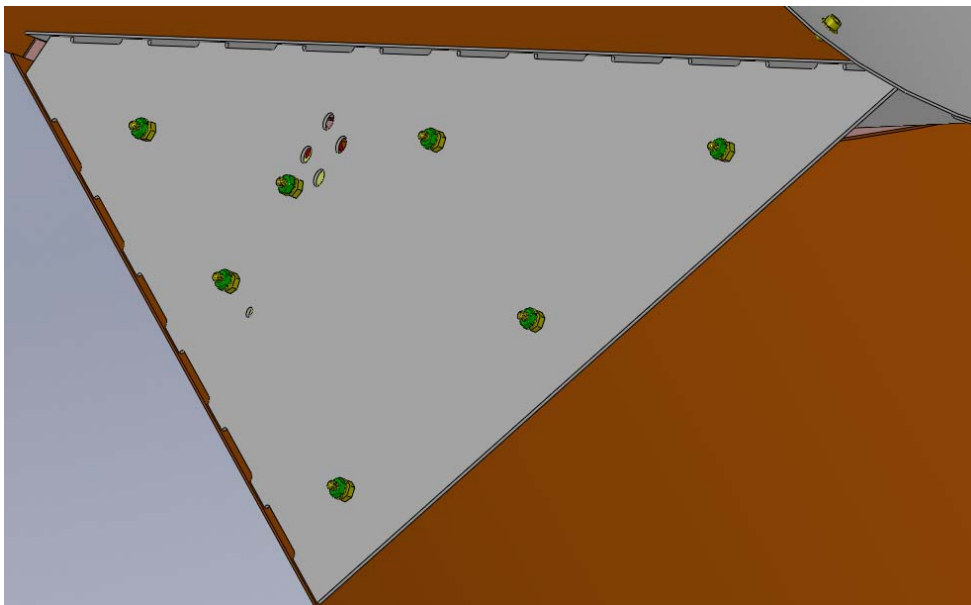

Figure 6
- Install threaded adapters (Male to Male Ref. McMaster 95316A400 or equivalent , with one #10 washer and nut, to one of baffle brackets on the bottom weldment, D0902655. This will be repeated to assemble to all 3 sides as shown in Figure 6 and Figure 7. qty 7 each side